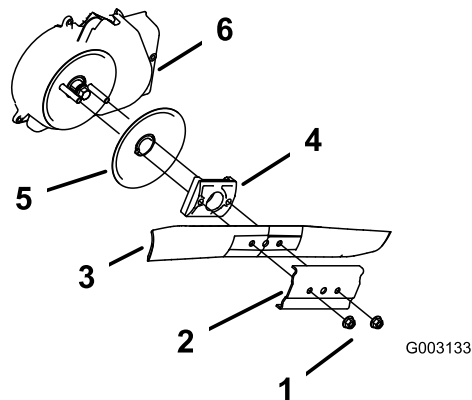

Figure 37
3. Remove the 2 blade nuts and the stiffener (Figure 37).
4. Remove the blade (Figure 37).
5. Remove the blade driver and disk (Figure 37).
6. Remove the blade-brake-clutch shield (Figure 37).
10. Install the blade and the stiffener that you previously removed (Figure 37).